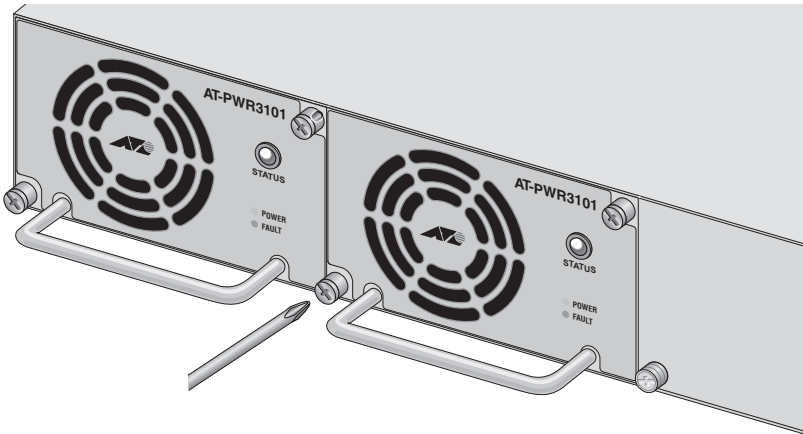

Figure 17. Tightening the Captive Screws on the AT-PWR3101 Module
6. Using a # 1 Phillips screwdriver, tighten the two captive screws to secure the module in the AT-RPS3104 system (see Figure 17).